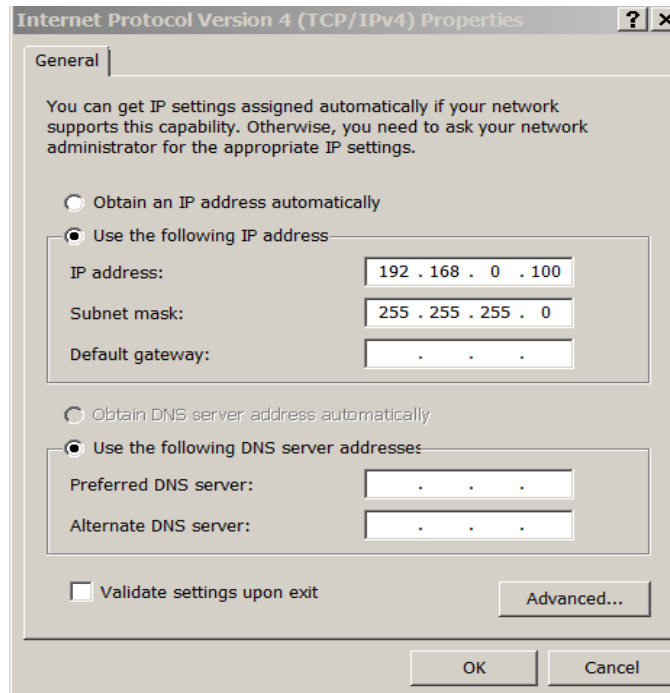

Figure 18: PC Local Area Network Settings
6. Configure the computer's Local Area Network as shown in Figure 18: PC Local Area Network Settings (Page 32).